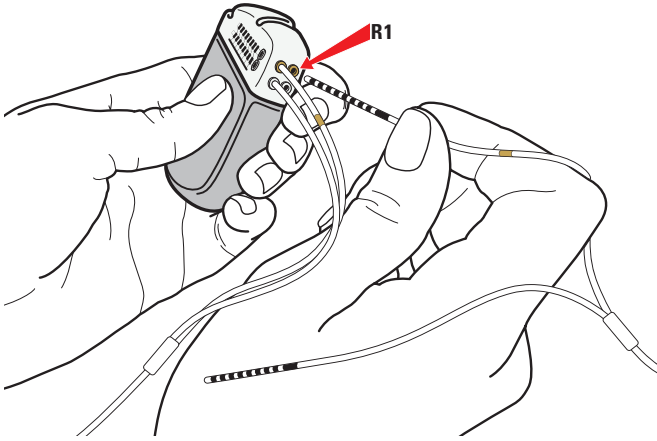

Figure 45. Connection to IPG Port R1
- a. Connect the tail with the gold marker band to the gold Port labeled R1 (Figure 45).